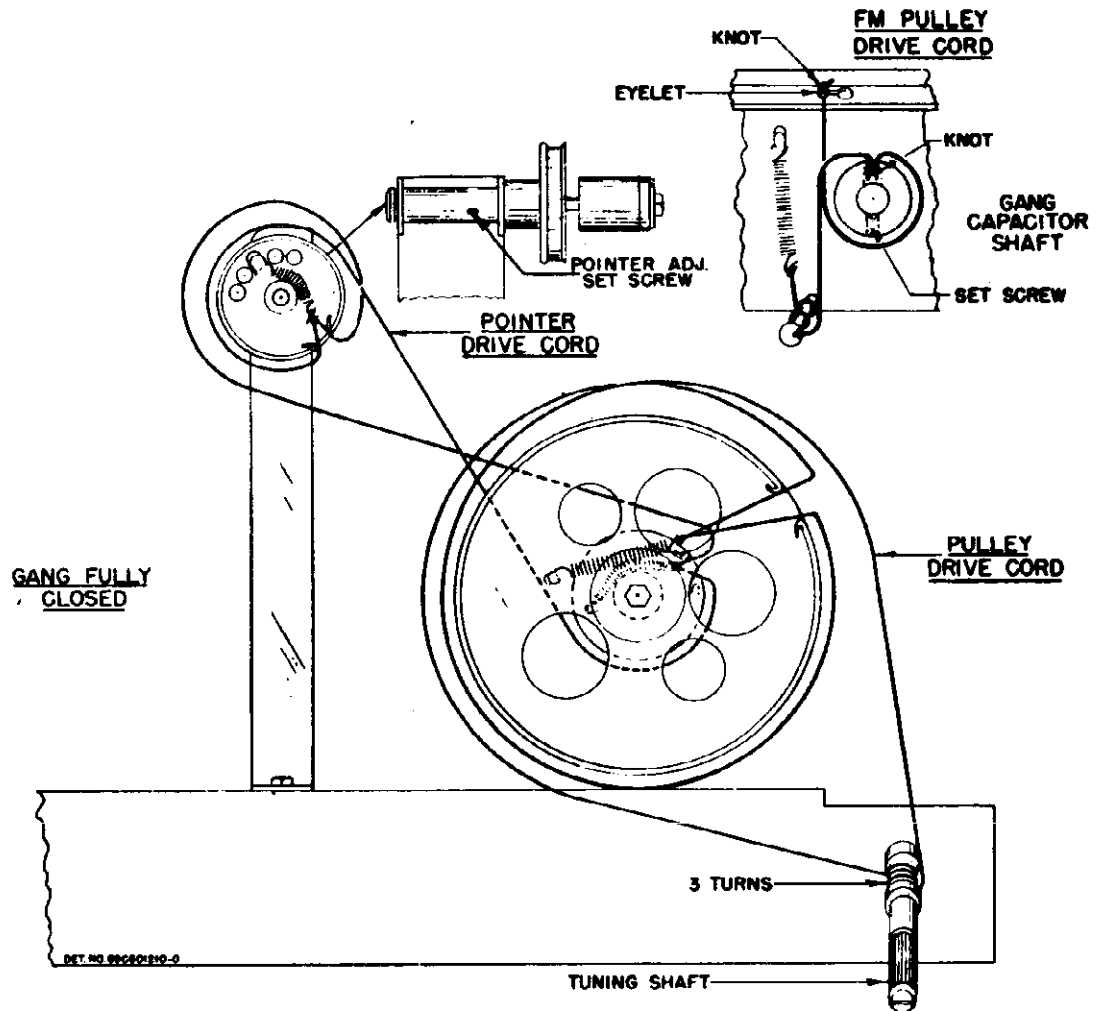

FIGURE 3. POINTER AND DRIVE CORD RESTRAINING DETAIL
5. From the back of the cabinet, loosen the pointer adjustment setscrew (see Figure 3) and pull the pointer and shaft assembly from the chassis. CAUTION: Do not remove the nut from the front of the pointer, as the detent ball and spring will fall out, and may become lost.
2. From the back of the cabinet, loosen the pointer adjustment setscrew (see Figure 3). CAUTION: Do not remove the nut from the front of the pointer.